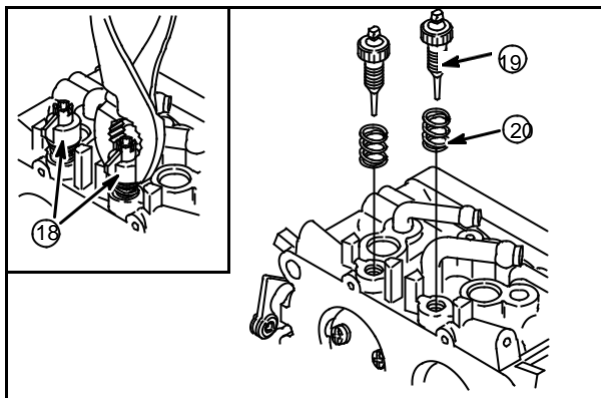

Fig. 65
Remove idle mixture screws (19) and springs (20), **Fig. 65**.
NOTE: If idle mixture screws are equipped with adjustment limiter caps, remove the caps **BEFORE** removing idle mixture screws, **inset, Fig. 65.**